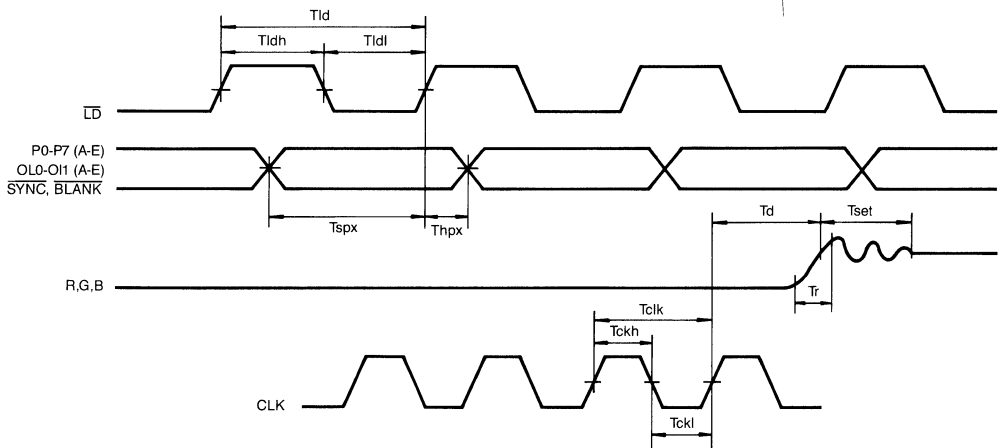

Fig. 2 Video Input/Output Timing
- TTL input levels are 0 to 3V with less than 3ns rise/fall times between 10% and 90% points. ECL input levels are V_{AA} - 0.8V to V_{AA} - 1.8V with less than 3ns rise/fall times between 20% and 80% points. CLK and CLK swings are adequate for driving the KDA0458. For input and output signals, timing reference points at 50% for inputs and outputs. Analog output load < 10pF, D0-D7 output load < 40pF. (see Fig. 2)
The input architecture of the KDA0458 compensates for the slower pixel data output rates of the frame buffer in very high resolution graphics systems. The internal latches and multiplexers allow several pixels to be loaded at frame buffer output rates and shifted out one by one at pixel clock rates. On the rising edge of the load control input ($\overline{LD}$) (see Fig. 2), the following information is latched: SYNC and BLANK information, pixel input data (P0-P7) (A-E) and overlay input data (OL0-OL1) (A-E)). The number of pixels being stored is either four or five, depending on mux selection criteria (4:1 or 5:1). During each pixel clock cycle, the KDA0458 outputs color information based on previous pixel inputs (A-E). Once all four or five pixels are sent to the display unit, the cycle repeats itself by loading the next set of pixel inputs. Signal relative to the clock, makes the design of frame buffer easier. This is done by externally dividing the CLK signal by four or five to generate the $\overline{LD}$ signal, eliminating the skew that is usually generated by propagation delays of the $\overline{LD}$ control logic. So, independent of clock phase, the pixel and overlay data are latched on the rising edge of the $\overline{LD}$. Internal logic generates a pseudo LOAD signal that is synchronous to CLK. This signal is guaranteed to follow the $\overline{LD}$ signal by at least one clock cycle and not more than three. The main function of this pseudo LOAD signal is to transfer the latched pixel and overlay data into a second set of latches, which are internally multiplexed at the pixel rate. For the cases where 4:1 multiplexing is specified, only one rising edge of $\overline{LD}$ should occur every four Pixel clock cycles. Similarly for 5:1 multiplexing scheme, only one rising edge of $\overline{LD}$ should occur every five clock cycles. Otherwise, the internal LOAD generation circuitry will not be able to synchronize and lock to external $\overline{LD}$.